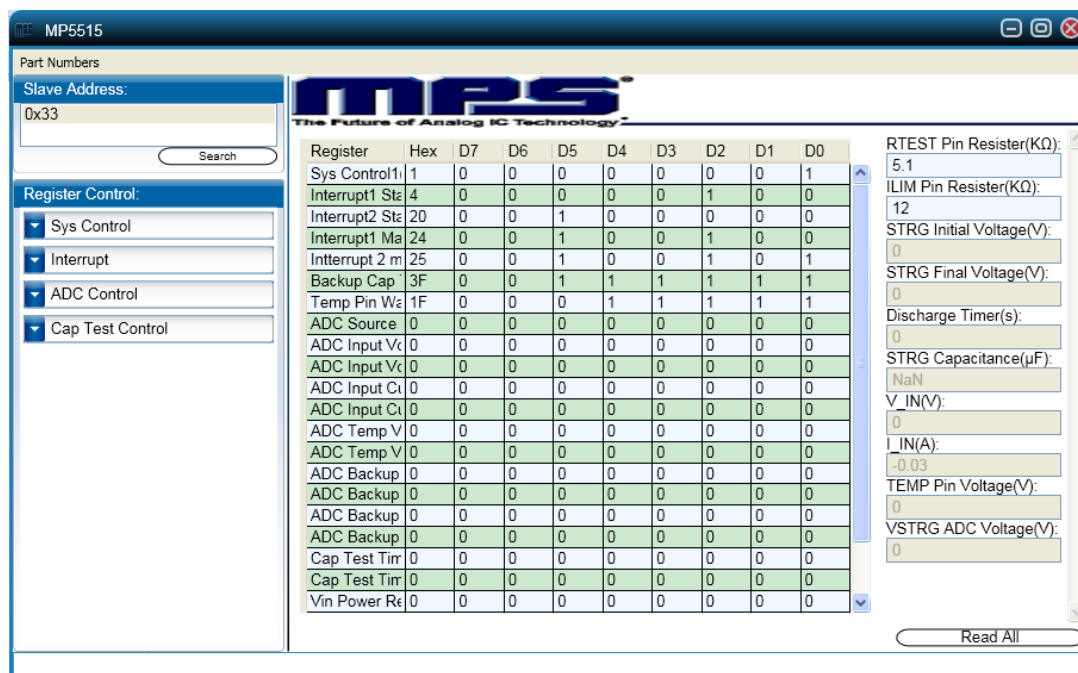

Figure 10: Values from I²C Shown in Table
- Select the MP5515 under Part Numbers. The Register Control menu will appear on the left side. The I²C register values will be read and displayed on the right side after clicking the **Read All** button (see Figure 10).